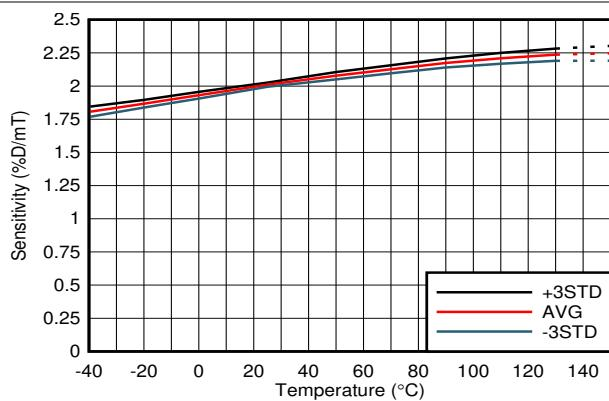
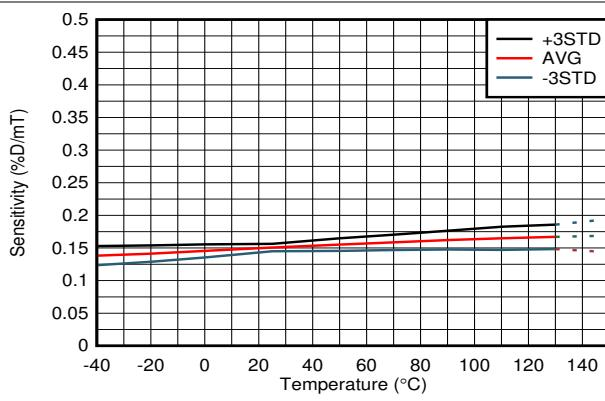

图 6-7. Sensitivity vs Temperature
图 6-20. Sensitivity vs Temperature
(1) B is the applied magnetic flux density.
(2) See the #7.3.2 section.
(4)  $S_{TC}$  describes the rate the device increases Sensitivity with temperature. For more information, see the #7.3.4 section and 图 6-7 to 图 6-20.
(5) Product Preview data only for DRV5055Z1 - DRV5055Z4 device options.